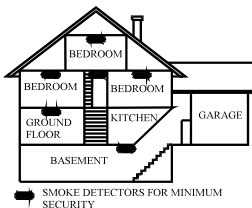

Figure 2: Installation locations for smoke & heat detectors in multiple-floor apartments or homes
- Install a smoke & heat detector on every floor in a multi-floor home (see *Figure 2*).